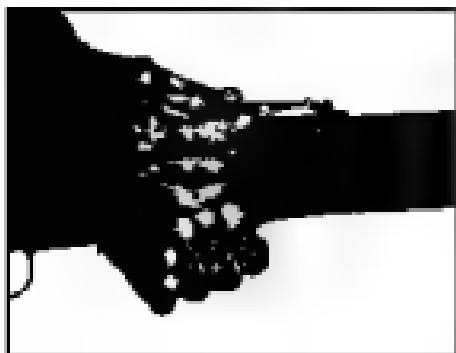

Figure 13
- 5 To remove Gas Tube/Handguard Assembly use a pin punch to pry the lever located on right of rear sight base into the position where the camming surface located at the front is completely vertical (Figure 13). **CAUTION:** Further movement will allow operating rod and spring to escape.